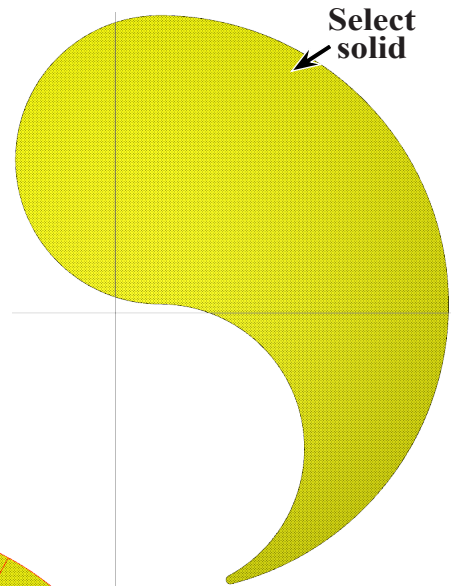

Fig. 43
Step 2. Click the **solid body** to select it and click **End Selection**  (ENTER), Fig. 43.